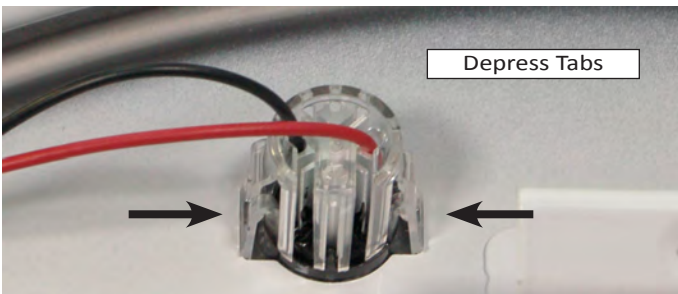

Figure 2 - Drum Light Tabs
6. Depress the tabs on both sides of the drum light to release from bulkhead. Route the light and harness assembly through the hole (see Figure 2).